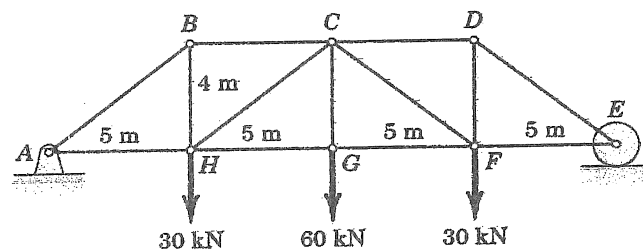

Fig.1
3. Find the forces in all the members of the frame as shown in figure 1. All the members have the same c/s area and young's modulus.